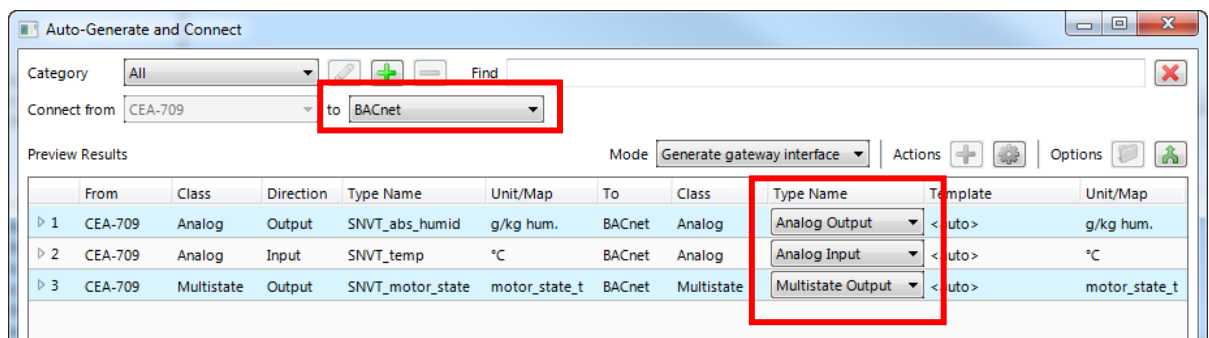

Figure 174: Auto-generate and connect preview.
5. The auto-generate preview dialog opens as shown in Figure 174. Choose the target technology. The preview results show a list for each source type found how it will be created as a target type. The **Type Name** column provides a drop-down to modify the result. This choice is remembered and will be applied the next time again.